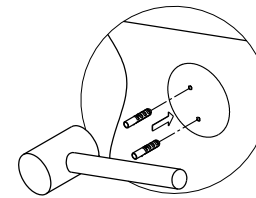

Fig. 4
- Step 4. Insert anchors into the holes with a hammer until flush with the wall (figure 4).